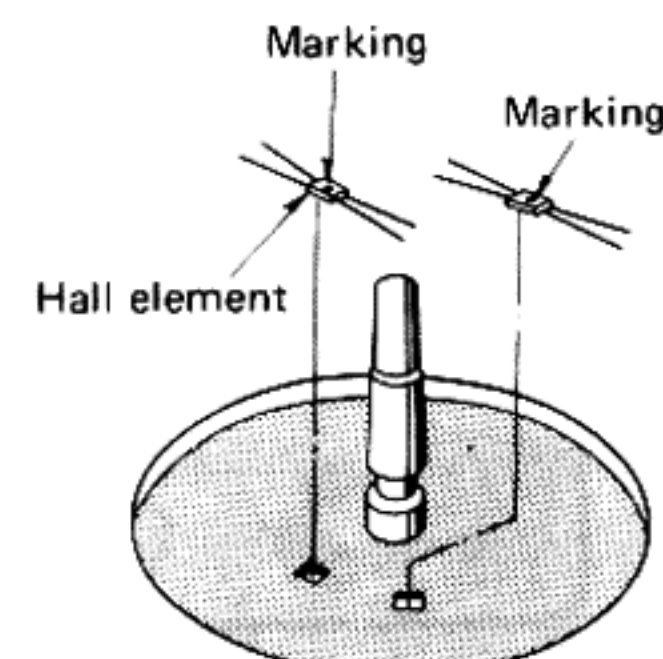

Fig. 10
- \* The Hall element should be installed with the marking side up as in Fig. 10.